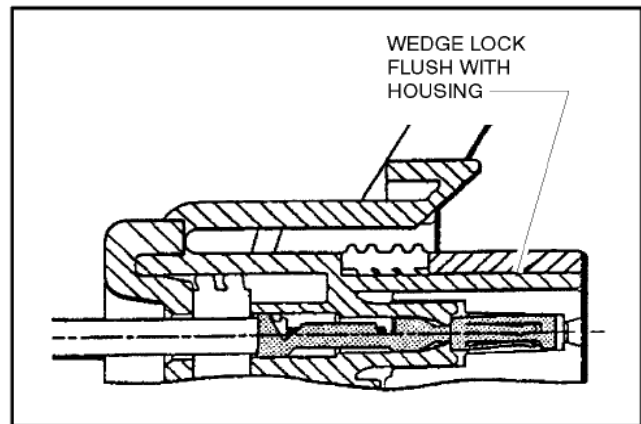

Figure 11-9. Connector Assembly Figure 4
4. Slide the wedge lock into the housing until it is flush with the housing (See Figure 11-9).